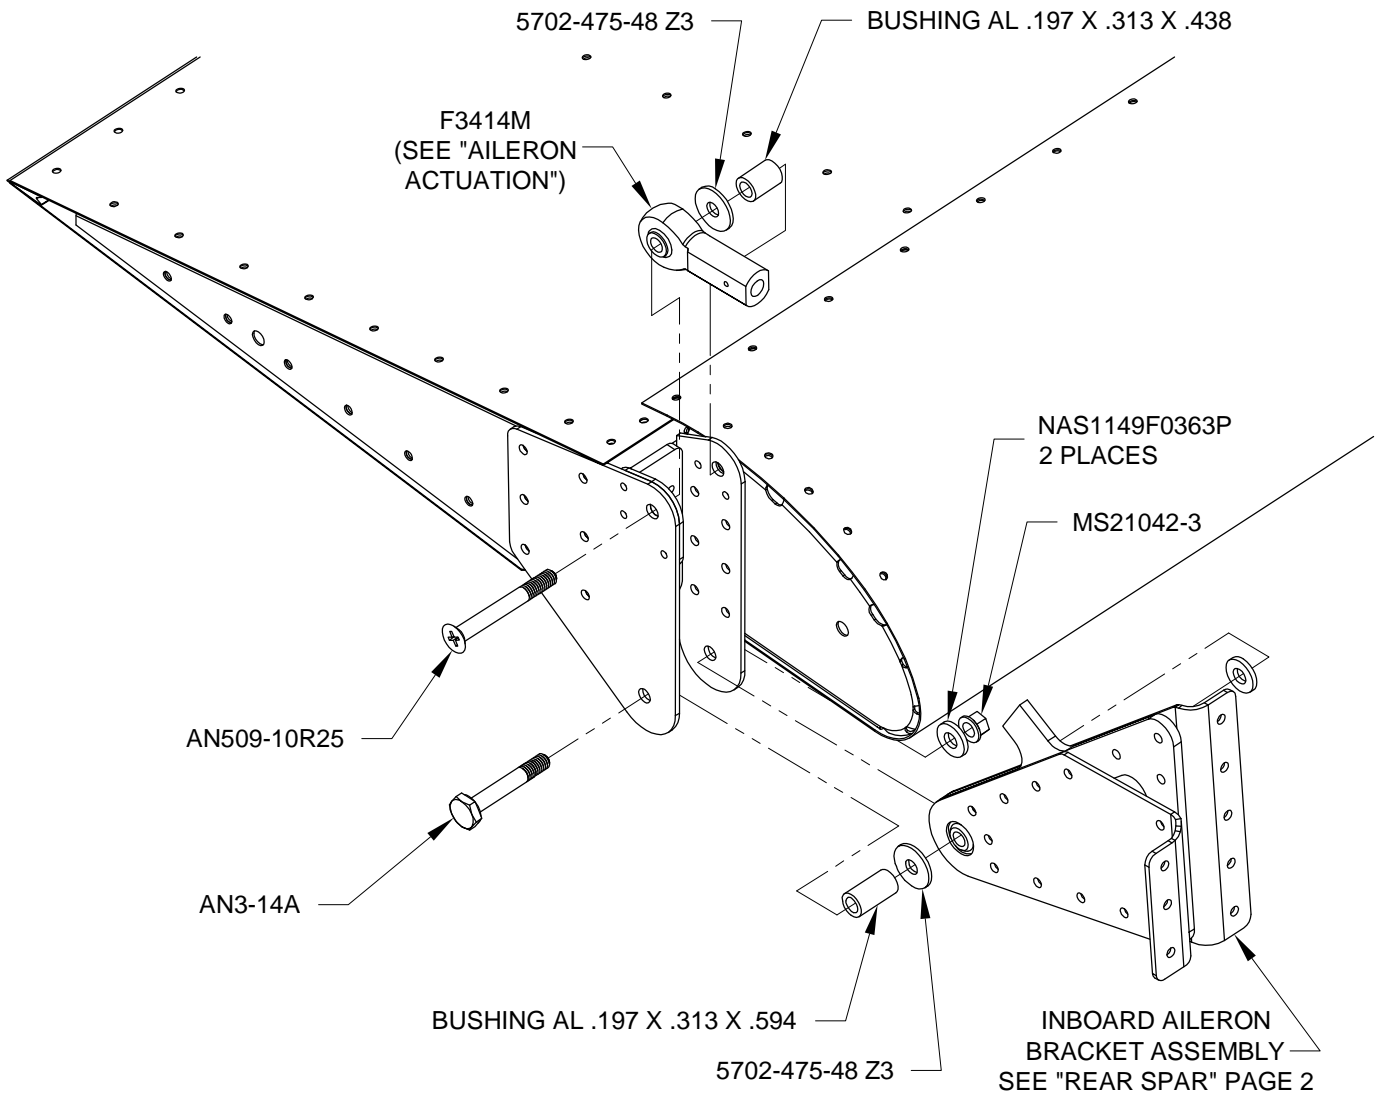

FIGURE 1: INBOARD HINGE BRACKET ATTACH HARDWARE
Step 1: The hardware called-out in Figure 1 for attachment of the inboard hinge bracket to the wing will be used during completion of the aileron actuation system as covered in Section 23.